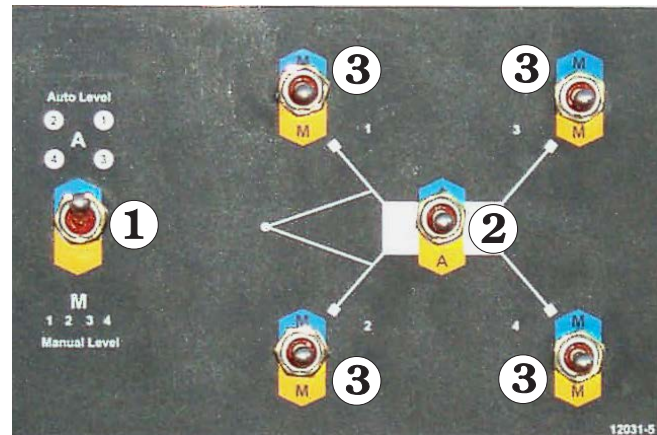

Figure 8.4 - Auto Level Controls
1. Set switch ❶ to automatic mode (see Figure 8.4)
- Press switch ② momentarily to lower the stabilizers (see Figure 8.4).
- Set switch ① to manual mode (see Figure 8.4).
- Operate each switch ③ (see Figure 8.4) to raise or lower each stabilizer one at a time. Use the level bubble (see Figure 2.7 in Safety Devices Chapter) to check the machine is level.